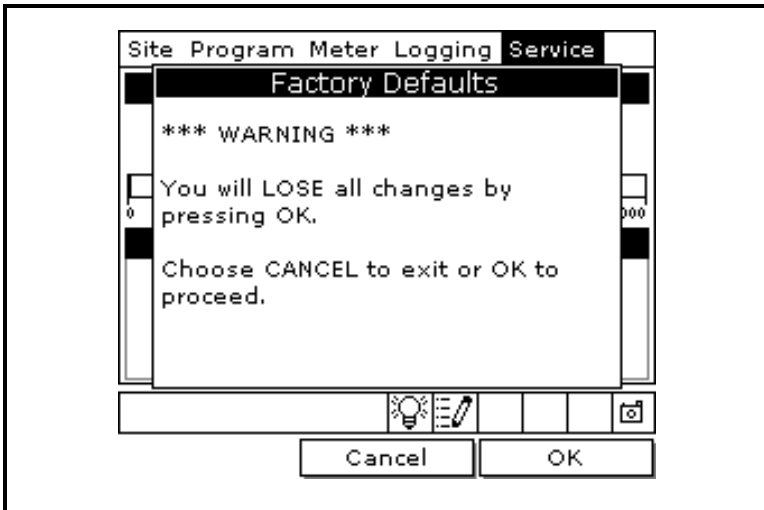

Figure 8-5: The Factory Defaults Window
4. Use the arrow keys to scroll to **Factory Defaults** and press [ENTER]. The screen appears similar to Figure 8-5 below.